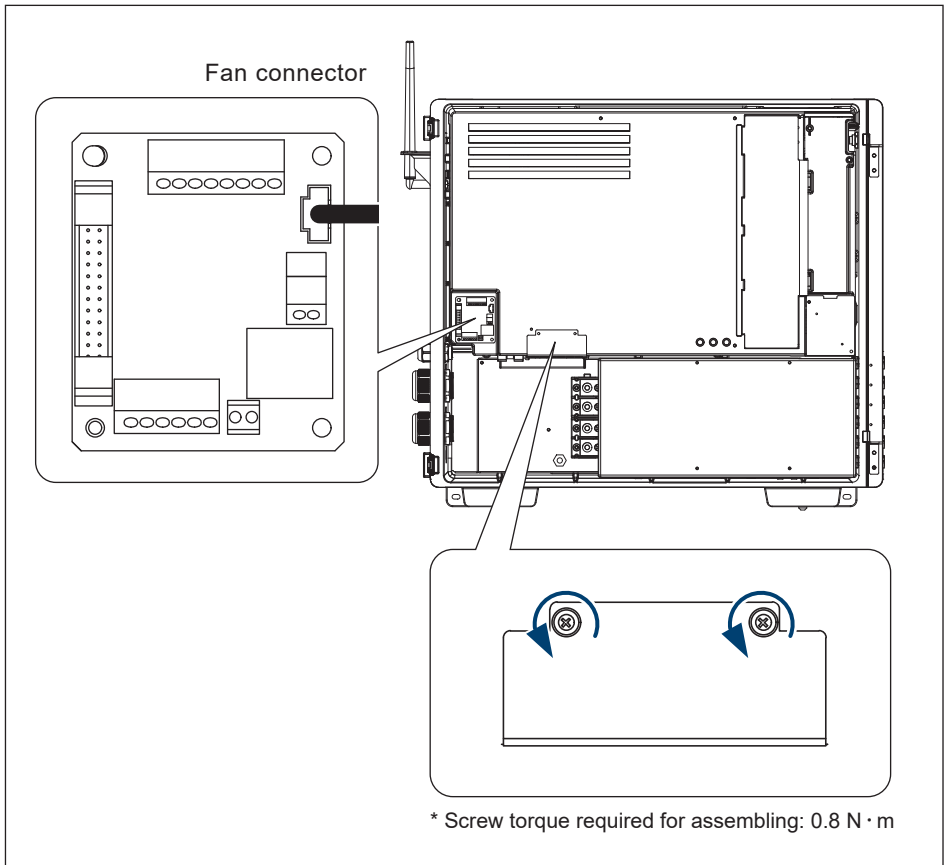
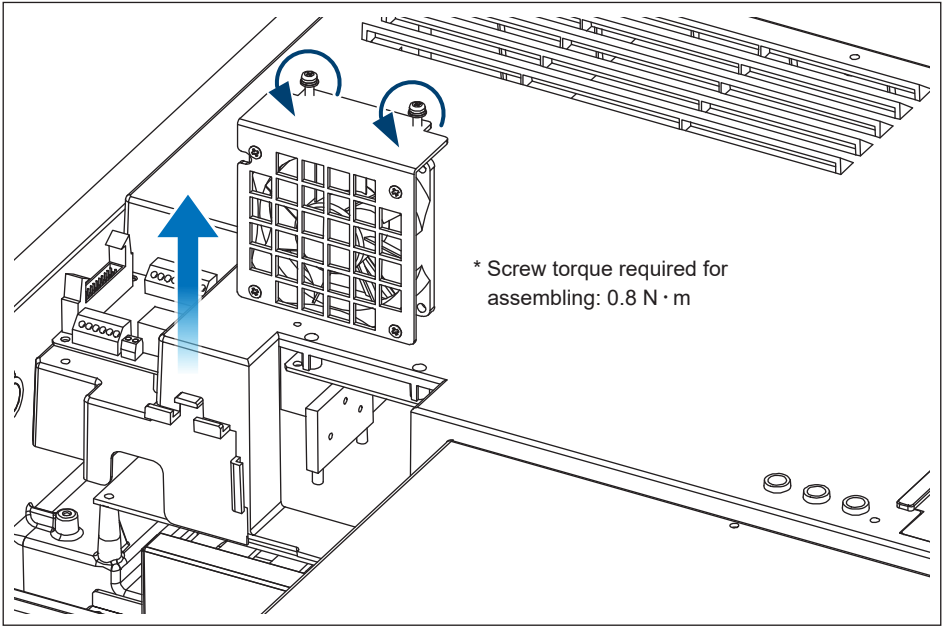

Figure 5-15: Internal fan 2 location & remove the shield cover
Figure 5-16: Take off the internal fan 2
- (1) Loosen two self-retaining screws shown in **Figure 5-15** and remove the fan cabinet.
- (2) Disconnect the power connector on the comm. board.
- (3) Lift the entire fan assembly. (shown in **Figure 5-16**)